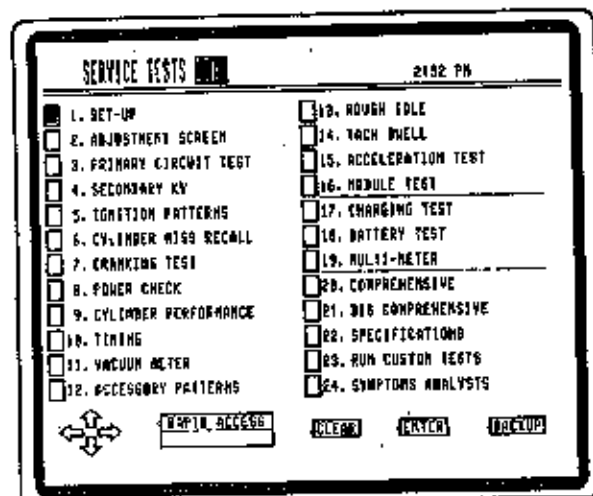

Figure 20
2. The Service Tests Menu appears (see Figure 20). Since the Set-Up test is highlighted, press [ENTER] to start the procedure.